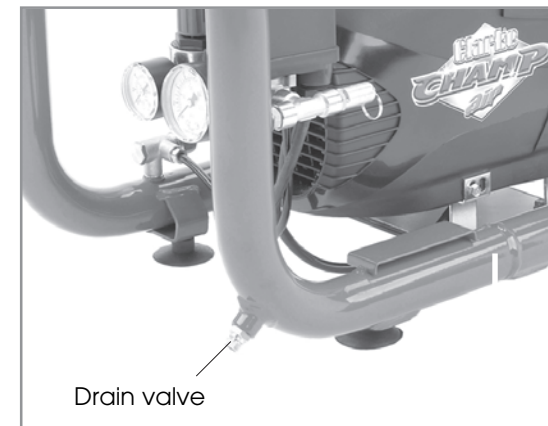

Figure 9
- 2 Carefully undo the drain valve until you hear a hissing noise, this is the reservoir depressurising. See figure 9.